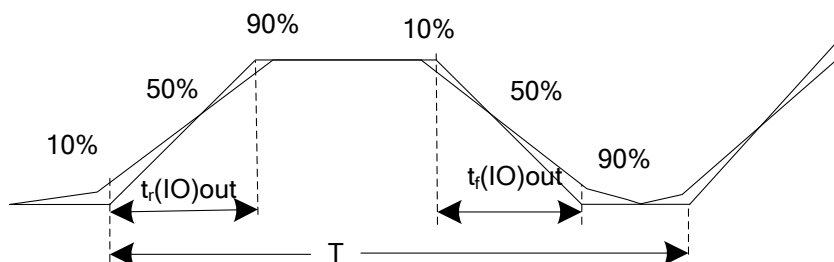

Figure 6.9 I/O AC characteristics definition
3. The maximum frequency is defined in Figure 6.9